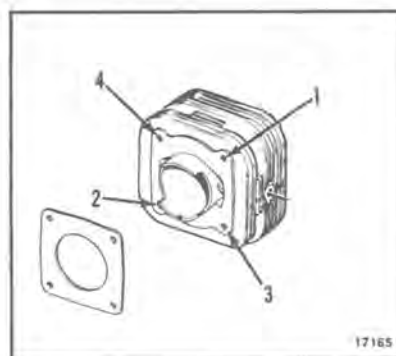

Figure 9-22
- a. Install cylinders, using new gaskets. Use a ring compressor (Special tool 426020) to install pistons in cylinders. Tighten nuts in correct sequence to specified torque. See Figure 9-22.